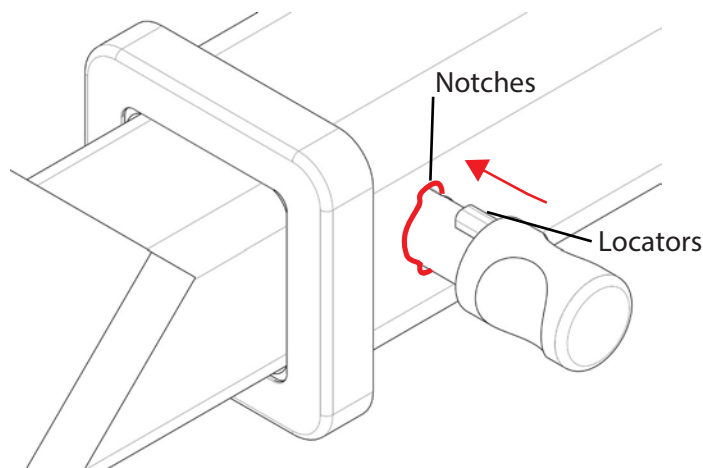

Fig 3. Silent Anti-Rattle Hitch Pin orientation
**STEP 2** Insert HITCH PIN through hole in HITCHBOX and hole in TBM SHANK; ensure the LOCATORS are inserted into the NOTCHES in the HITCHBOX (Fig. 3).